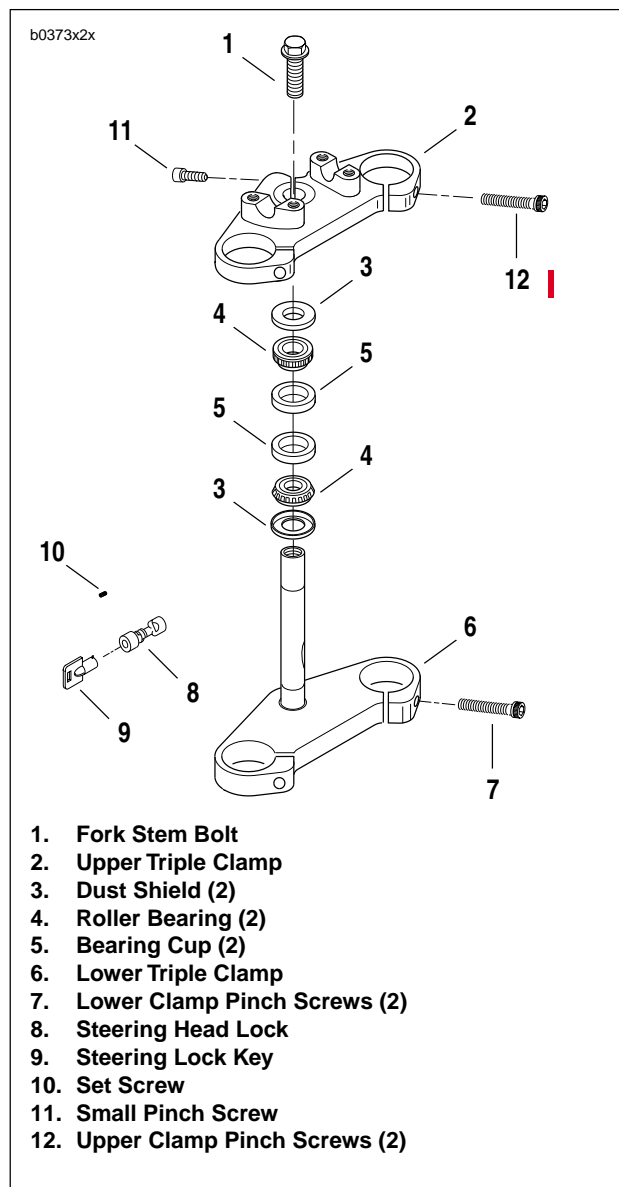

Figure 2-59. Fork Stem
3. See Figure 2-59. Remove all upper triple clamp screws (7, 11), fork stem bolt (1) and upper triple clamp (2).
4. Remove upper dust shield (3) and roller bearing (4).
- a. Remove two lower triple clamp screws (7). Pull the lower triple clamp (6) downward.
- d. Remove lower dust shield (3).
6. If replacement of bearing cups (5) is necessary, drive cups from steering head using STEERING HEAD BEARING RACE REMOVER (Part No. HD-39301A) and UNIVERSAL DRIVER HANDLE (Part No HD-33416).
1. See Figure 2-59. Clean the dust shields (3), bearing cups (5), fork stem and lower triple clamp (6) and frame with solvent.
2. Carefully inspect bearing races and assemblies for pitting, scoring, wear and other damage. Replace damaged bearings (4) as a set (3, 4 and 5).
3. Check the fork stem and lower triple clamp (6) for damage. Replace if necessary.
1. See Figure 2-59. If removed, install **new** bearing cups (5) into frame steering head using STEERING HEAD BEARING RACE INSTALLER (Part No. HD-39302).
2. Liberally coat the bearing cones (4) with grease using WHEEL BEARING PACKER TOOL (Part No. HD-33067). Work the grease into the rollers.
- a. Place lower bearing dust shield (3) over fork stem.
- c. Press bearing (4) with small end up onto fork stem and lower triple clamp (6). Use the pipe as a press-on tool.
4. Insert lower triple clamp (6) through the steering head. Install the upper bearing (4) with small end down and dust shield (3) onto fork stem.
5. Apply LOCTITE ANTI-SEIZE to fork stem bolt (1). Loosely install upper triple clamp (2) using fork stem bolt.